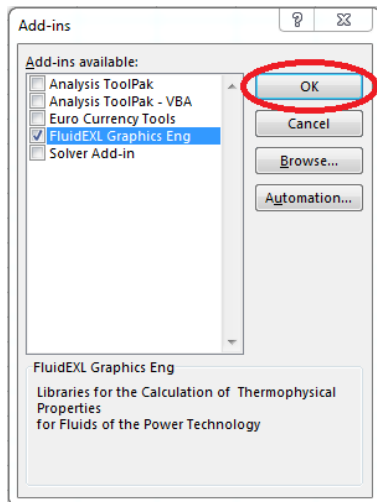

Figure 2.6: Dialog window "Add-Ins"
- Now, "FluidEXL Graphics Eng" will be shown in the list of Add-ins (see Fig. 2.6).
- In order to register the Add-In click the "OK" button in the "Add-ins" window (see Fig. 2.6).